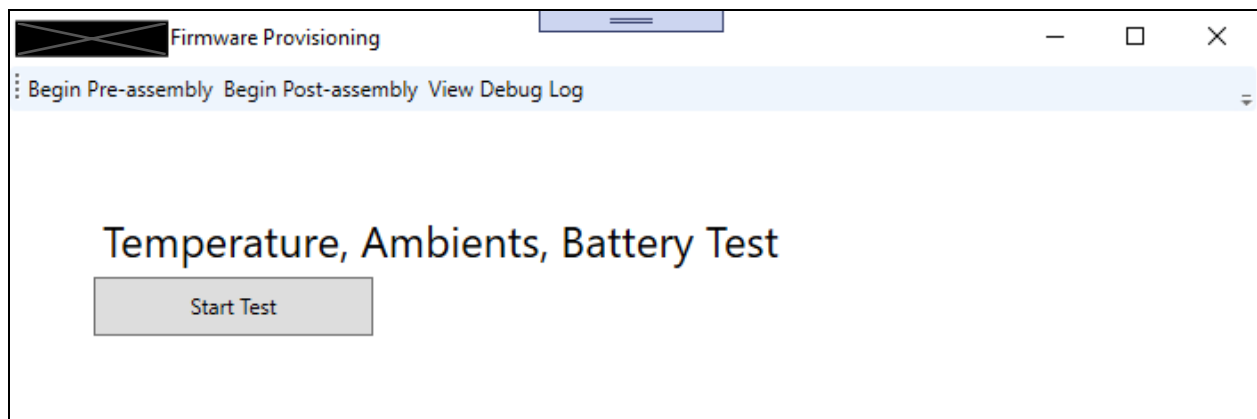

Fig. 5
1. The first test will verify the temperature sensors, ambient humidity and temperature sensors, and the battery read valid values. Click the **Start Test** button to begin. (Fig. 5)